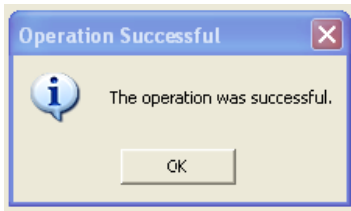

Figure 28: Operation successful message
- An "Operation Successful" message appears if the operation is successful (Figure 28).